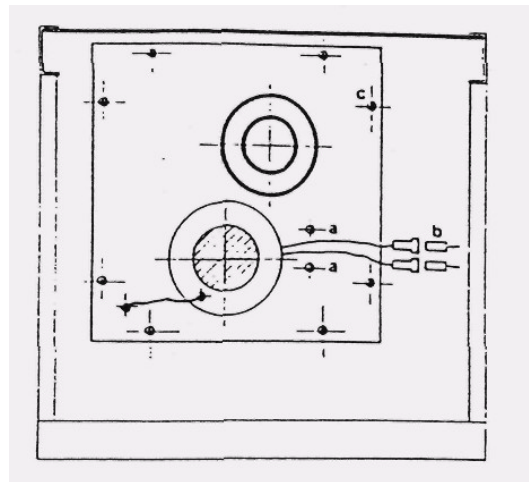

Fig. 8.1 TOP VIEW OF THE BOILER (Without top protective guard)
8.3.1 Disconnect the pressure tubes from the inner top panel (a. fig. 8.1)
8.4.1 Disconnect leads at the in line connectors (b fig 8.1)
8.4.4 Disconnect the pressure tubes from (the inner top panel (See fig 8.1).